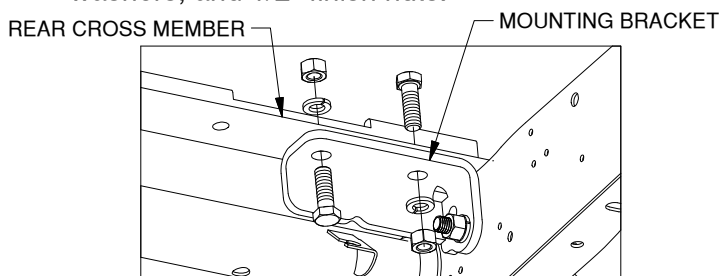

Figure C2: Looking at passenger side mounting bracket.
- Secure rear cross member.** Attach the rear cross member to the cross member brackets, as shown in Figure C2, with 1/2" x 1-1/2" cap screws, 1/2" lock washers, and 1/2" finish nuts.